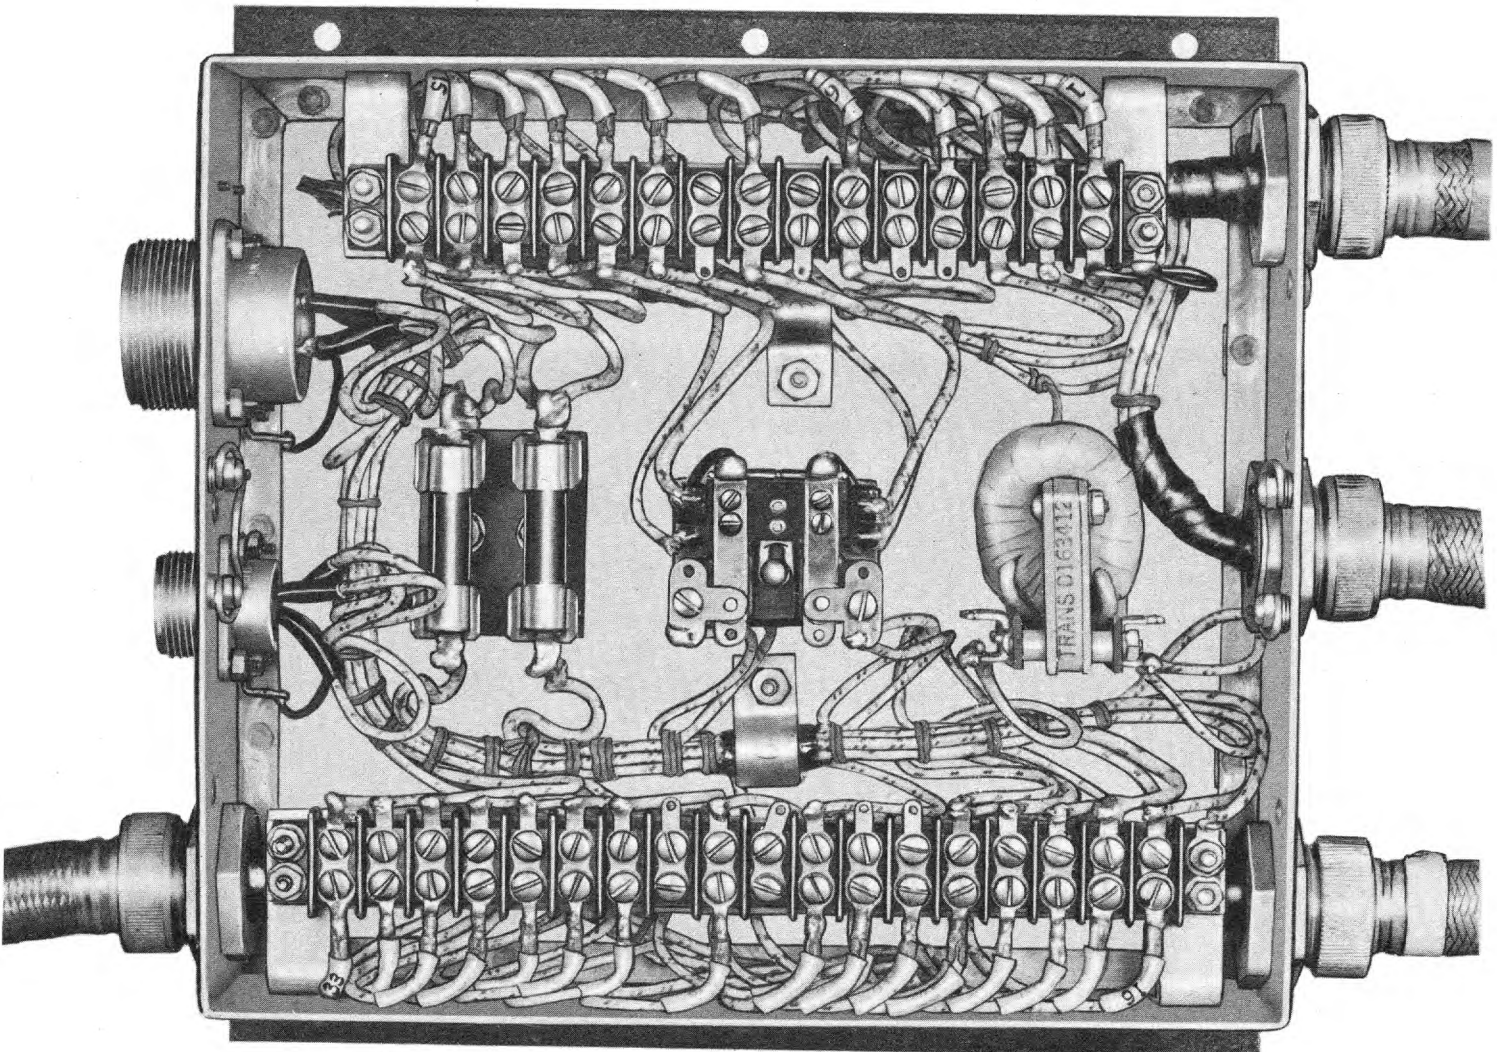
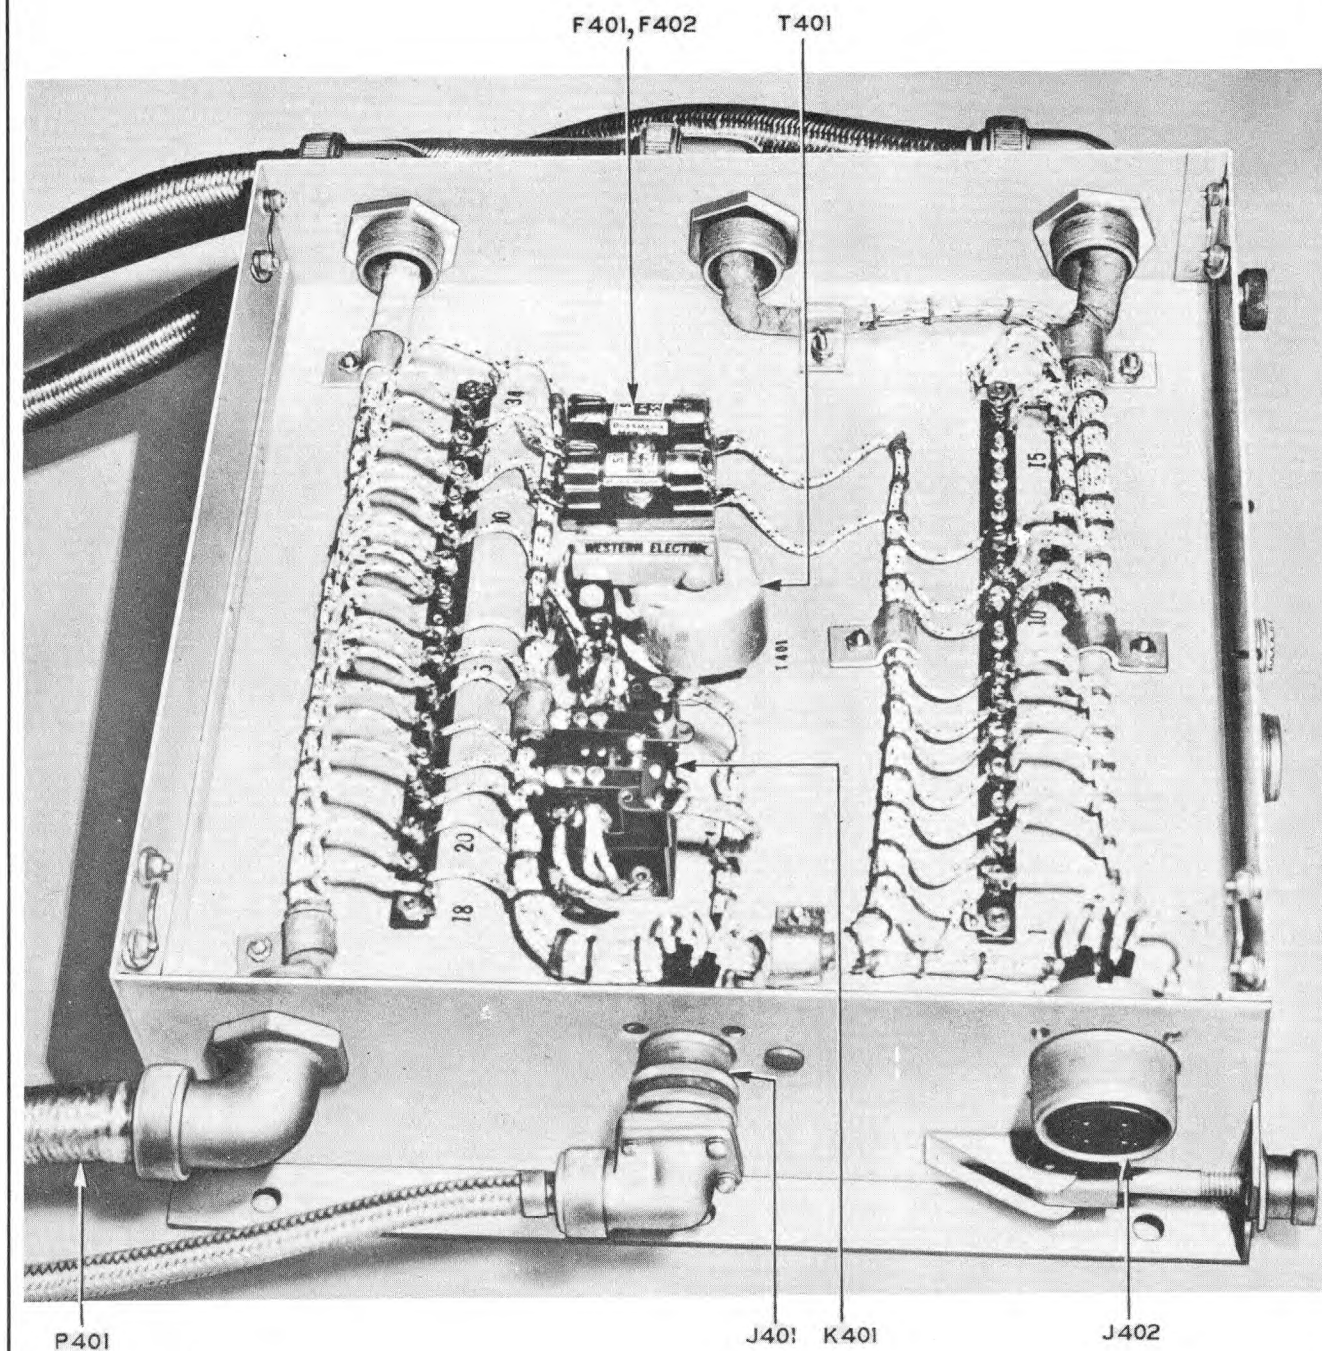

Figure 4-1. Junction Box J-10/APQ-5A—Interior, Top
Figure 4-2. Junction Box J-1/APQ-5—Interior, Top
(1) The two fuses directly protecting this equipment are located in the associated junction box. Note that either Junction Box J-10/APQ-5A (see fig. 4-1) or Junction Box J-1/APQ-5 (see fig. 4-2) may be used.
(2) In either case to reach the fuses remove the cover plate of the junction box. Both fuses in each box have the same rating. Two spare fuses are held in clips inside the cover plate.